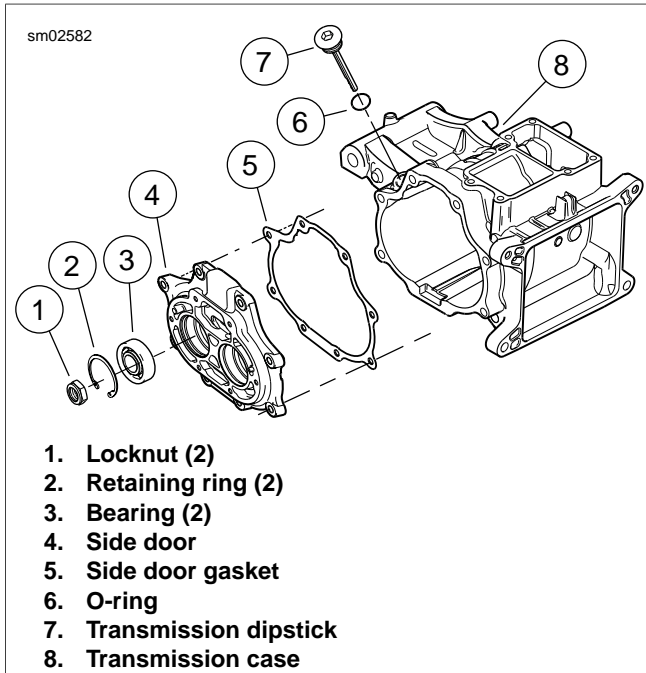

Figure 6-24. Side Door Bearings
1. See Figure 6-24. Remove the retaining rings (2).
- See Figure 6-24. Install beveled retaining ring (2) with the flat side next to the bearing.